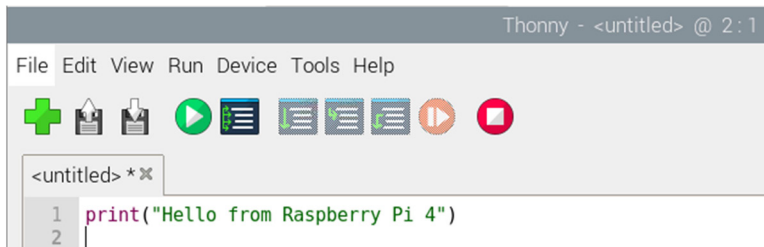

Figure 2.9 Type your program
- Type your program in the upper part as shown in Figure 2.9.
Thonny provides the option of debugging a program, where we can single step through a program and display the variables as the program is stepped through. As an example, let us debug the program given in Figure 2.9. The steps are: